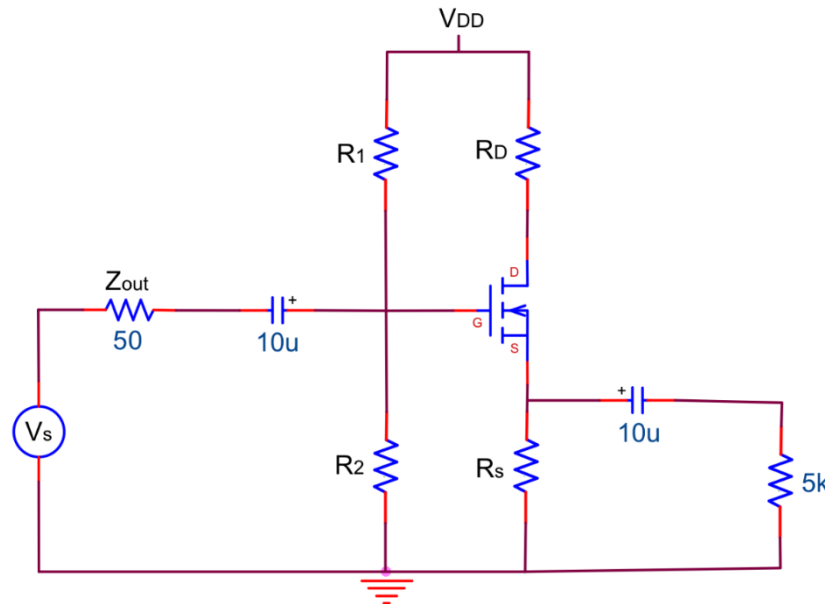

Figure 12.1
1. Refer to Figure 12.1. Using the 2N7000 MOSFET, design a common drain amplifier with the following specifications:
1. Construct the circuit in figure 12.1. Measure and record I_D by measuring the voltage across R_S . Measure and record V_{DS} . Compare your measured Q-point to the one used in the pre-lab.